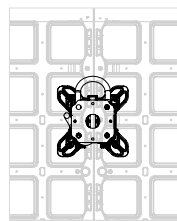

Fig. D1.02b
- above 2 DP panels (**10**), for connecting the panel edges, (Fig. D1.02b)